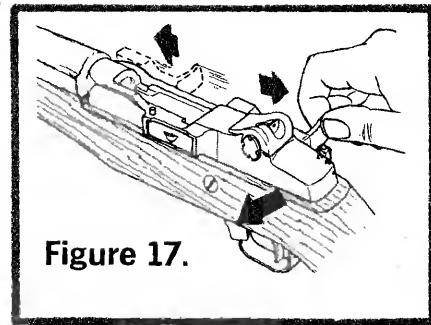

Figure 17.
3. Pull the slide handle all the way to the rear and release. Put safety "ON" (Figure 17). NOTE: Hammer must be cocked and safety must be "ON" to accomplish disassembly and reassembly.